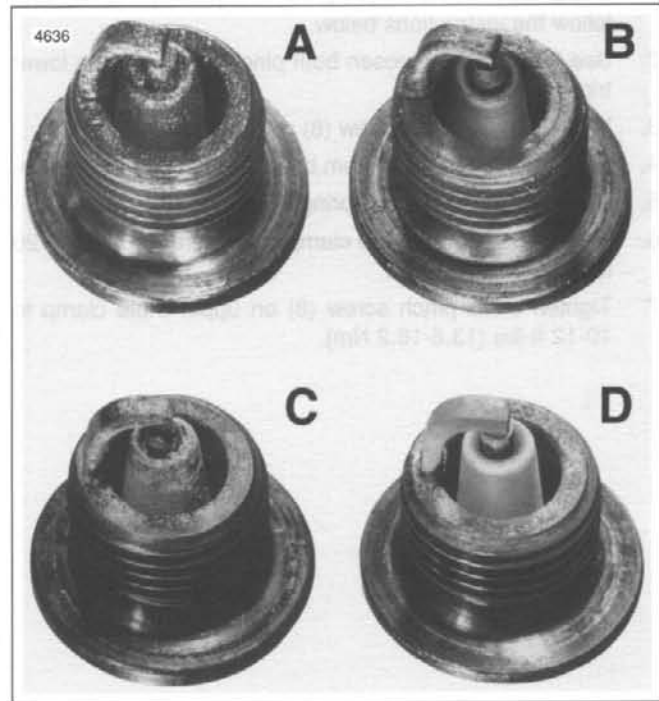

Figure 1-60. Typical Spark Plug Deposits
4. See Figure 1-60. Compare your observations of the plug deposits with the descriptions provided below.